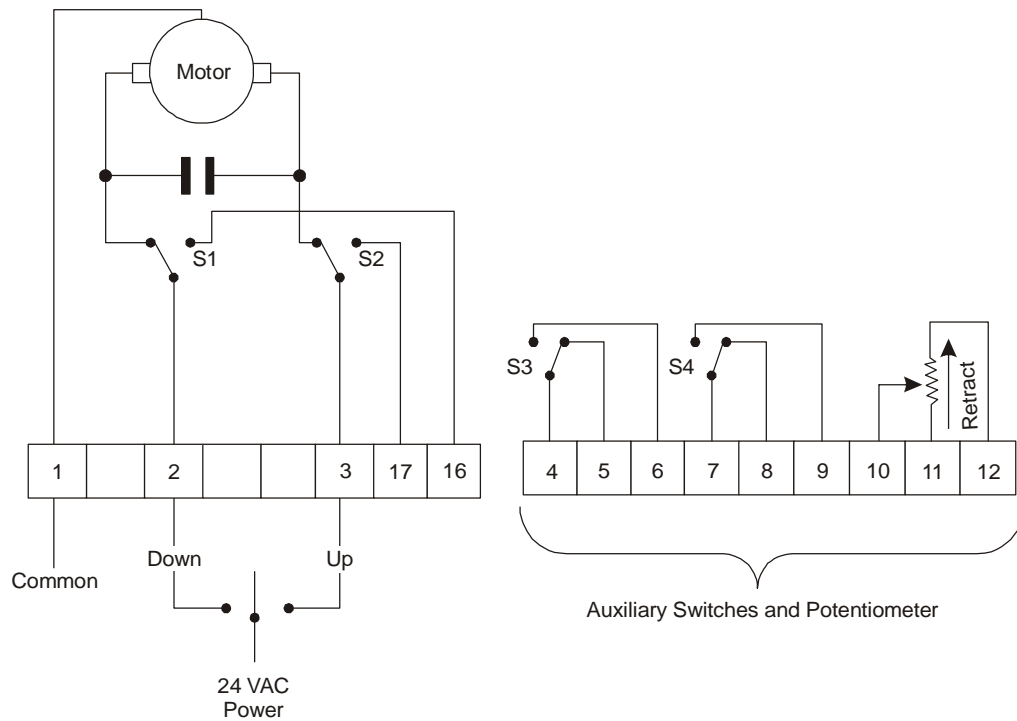

Figure 6: VA-6100-AGC Wiring Diagram for On/Off (Floating) Control
3. Apply 24 VAC power to Terminals 1 and 3 (Figure 6) to drive the valve stem fully up. The ohmmeter should display a resistance of 1,300 to 1,500 ohms for a 4 in. valve; 1,600 to 1,800 ohms for a 5 in. valve; and 1,700 to 1,900 ohms for a 6 in. valve.